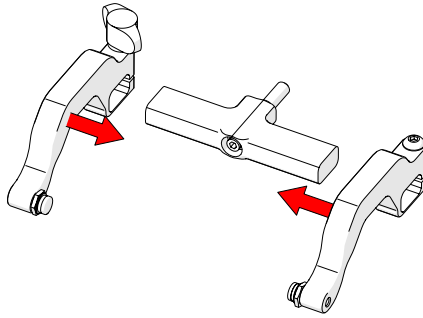

Fig. 122 - Place arms back onto yoke
6. Place the probe holder arms on the yoke and tighten the arm clamp screw and probe holder adjustment knob (Fig. 122).